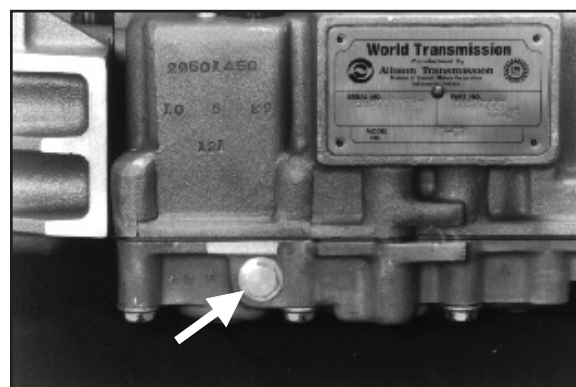

Figure 12
1. Begin by draining the oil from the transmission. Use caution, since the oil may be hot (**Fig. 12**).